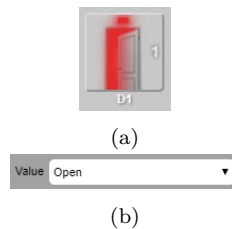

Figure 5.24: As the value of the sensor *D1* is "OPEN" (Figure 5.24a) and the alert value is "Open" (Figure 5.24b), AtenTTo will beep.
- ☐ If the door with the sensor *D1* is opened, AtenTTo will beep. Otherwise, it will not. For instance, in the case of the Figure 5.24, AtenTTo will beep.